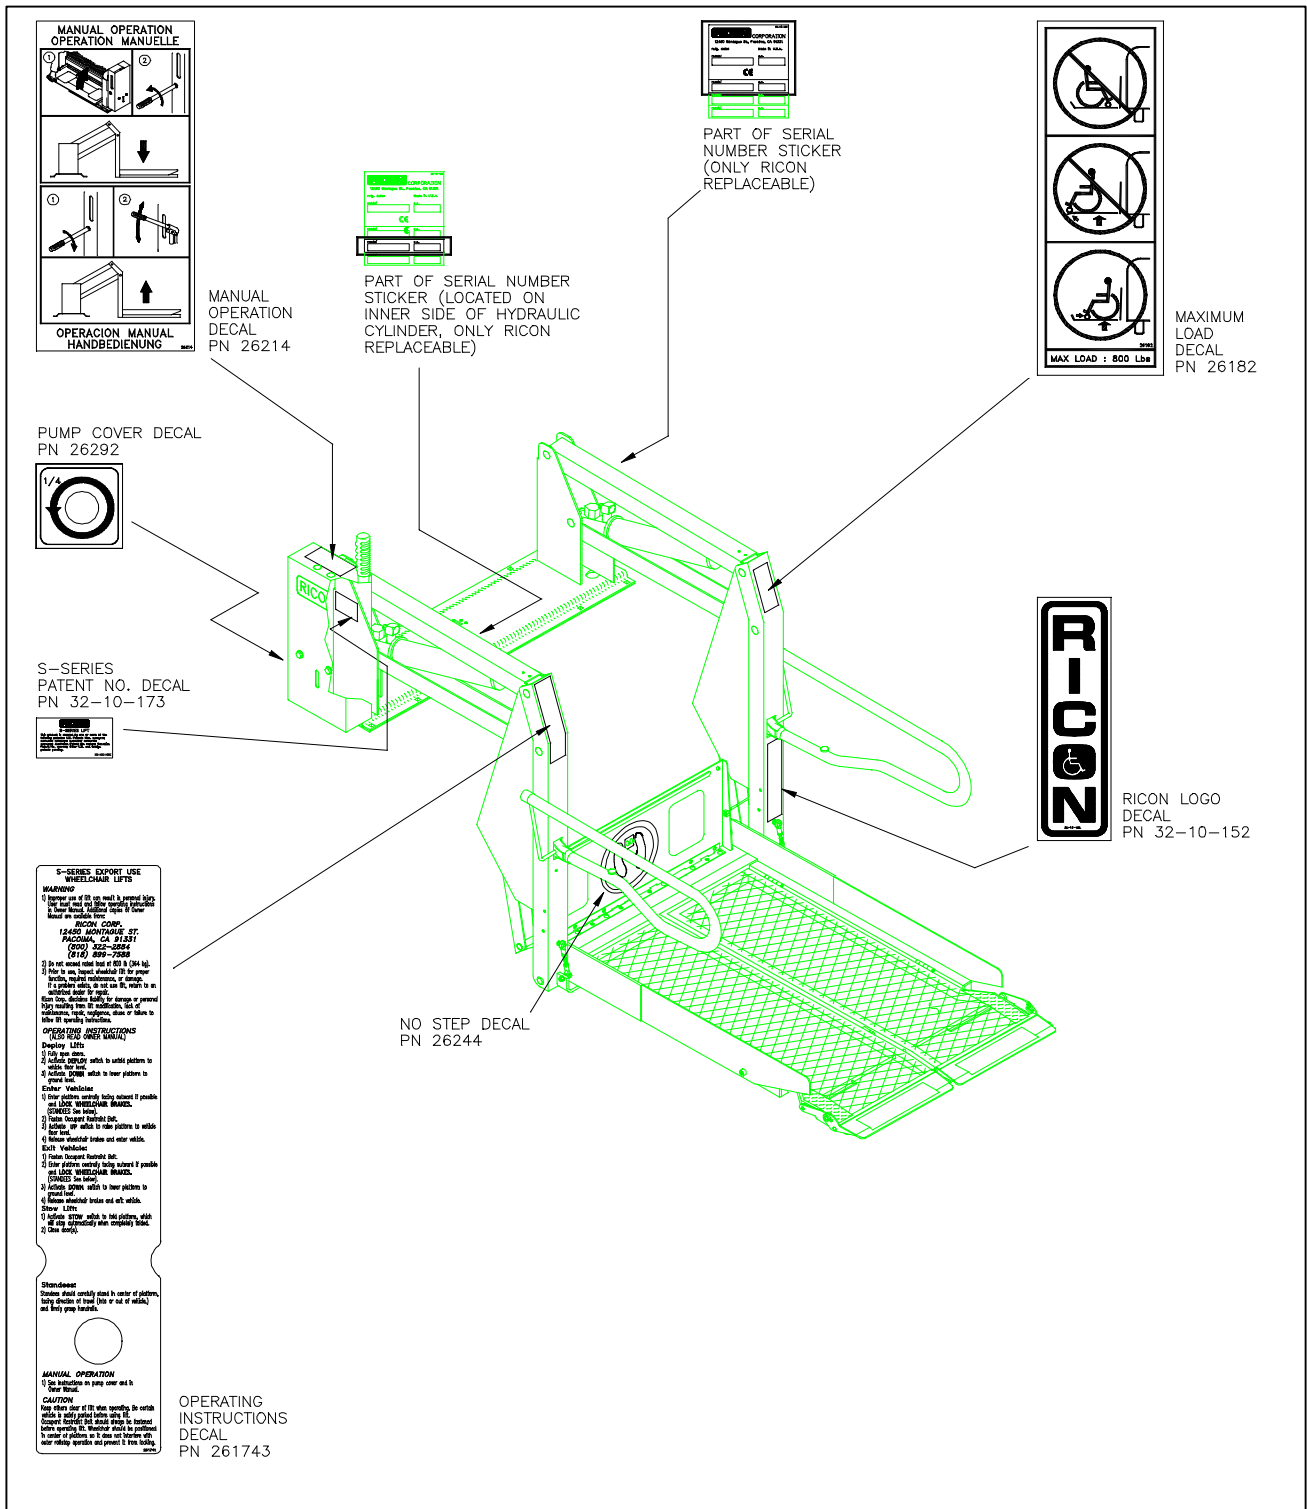

FIGURE 2-24: S-SERIES DECAL LOCATIONS AND PART NUMBERS
- Refer to **Figure 2-24** on next page and be certain that all decals are properly located and affixed as shown.